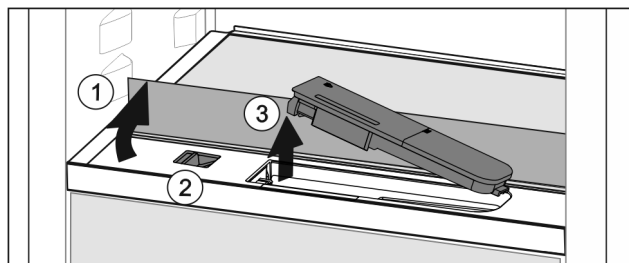

Fig. 44
- ▶ Lift the glass panel and fold towards the rear until it clicks into place Fig. 44 (1).
- ▶ Slide the slider Fig. 44 (2) to the left.
- ▶ Remove the water tank Fig. 44 (3).